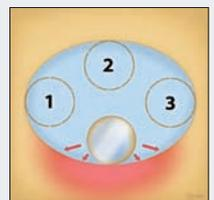

Figure 6 – Tip position during different passes
4. Insert RFT2 (1) mm short of the apex. (Use the rubber slider on the tip as a depth indicator.)
6. Repeat steps 4 and 5 one or two more times to ensure that the entire inner-canal has been cleaned (see Figure 6).